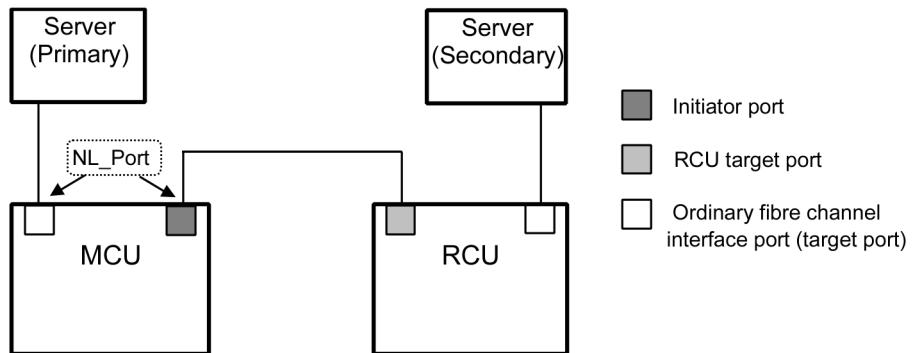

Figure 16. Fibre Channel direct connection (NL_Port) up to .5km
- **Direct connection** (see Figure 16): To set ports for direct connection (up to 500 meters), use LUN Manager and set port topology to Fabric off, FC-AL.: